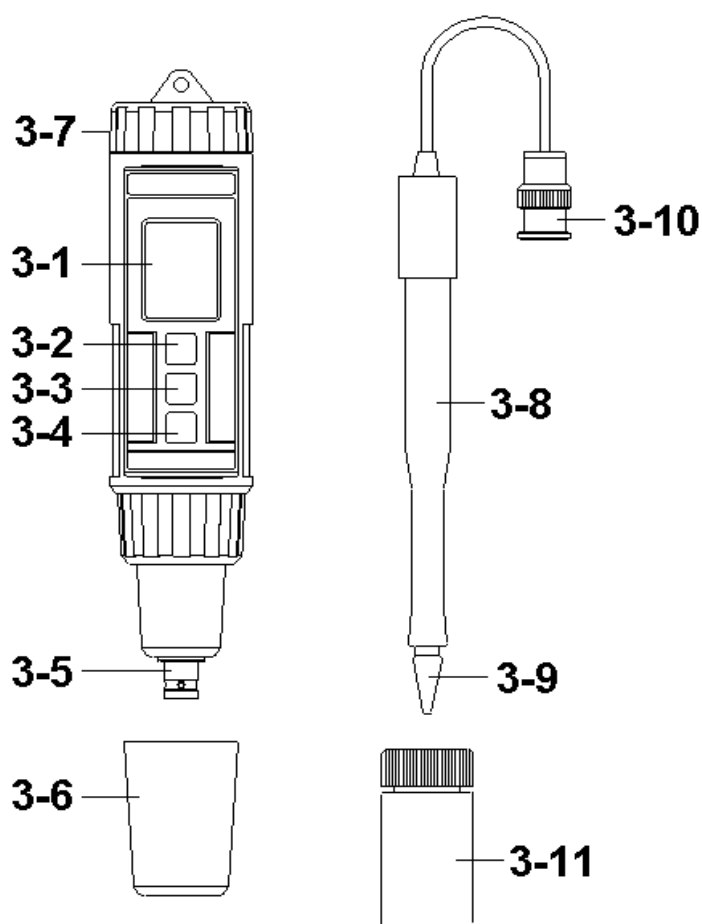

Fig. 1
- 1) Connect the pH electrode plug (3-10, Fig. 1) to the BNC socket (3-5, Fig. 1) and place electrode into pH 7.00 buffer solution.
- 2) Power on the instrument by pressing the " Power button " (3-2, Fig. 1).
- 3) Press the " Hold button " (3-3, Fig. 1) once. the display will show the " HOLD " symbol.
Press the " ▼ button " (3-3, Fig. 1) once, the display will show following screen in sequence.
- * When the LCD show the screen 2, it allow the user to adjust another calibration value precisely (for example 7.01, 6.99...) by pressing the " ▲ button " (3-2, Fig. 1) , " ▼ button " (3-4, Fig. 1)'
- * After calibration, the " Electrode sensing head " (3-9, Fig. 1) should insert into the " Protection bottle " (3-11, Fig. 1).
- 1) Connect the pH electrode plug (3-10, Fig. 1) to the BNC socket (3-5, Fig. 1) and place electrode into the measured solution.
- 2) Power on the meter by pressing the " Power button " (3-2, Fig. 1).
- * After calibration, the " Electrode sensing head " (3-9, Fig. 1) should insert into the " Protection bottle " (3-11, Fig. 1).*
During the measurement, press the " Hold button " (3-3, Fig. 1) once will hold the measured value & the LCD will display a " HOLD " symbol.
During the measurement, press the " Display reverse button " (3-4, Fig. 1) once will reverse the display direction for the user convenience.
- 2) To replace the battery, rotate and remove the " Battery Cover " (3-7, Fig. 1), take out the old batteries, install new batteries :